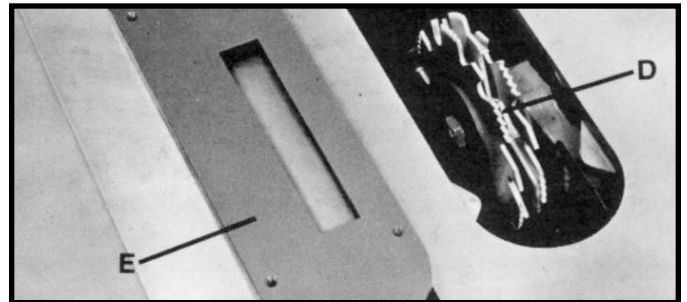

Fig. 146
The dado head set (D) Fig. 146, is assembled to the saw arbor as shown. **IMPORTANT:** The blade guard and splitter assembly cannot be used when dadoing and must be removed or swung to the rear of the saw as explained previously in this manual. Auxiliary jigs, fixtures, push sticks and feather boards should also be used. Also, the accessory dado head table insert (E) Fig. 146, must be used in place of the standard table insert.